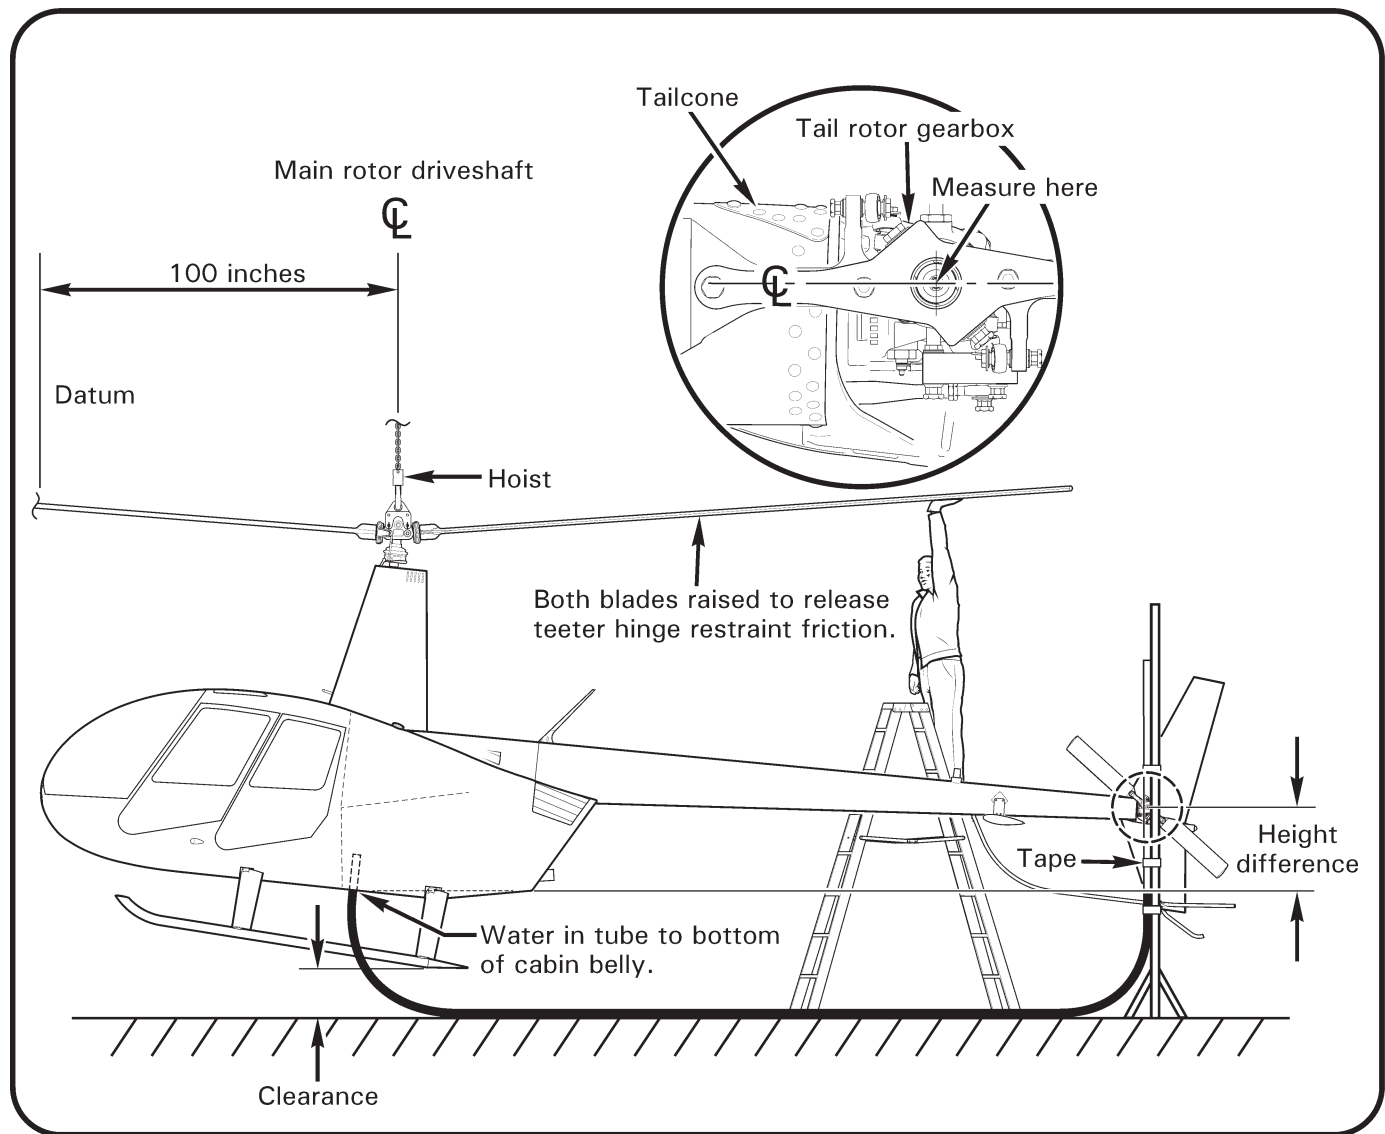

FIGURE 18-3 DETERMINING CG USING WATER LEVEL
4. Refer to Figure 18-3. With aircraft hanging freely and steady, use a water level and measure difference in vertical height between tail rotor gearbox centerline and cabin belly at vertical firewall. Ensure no air bubbles in water level tube.